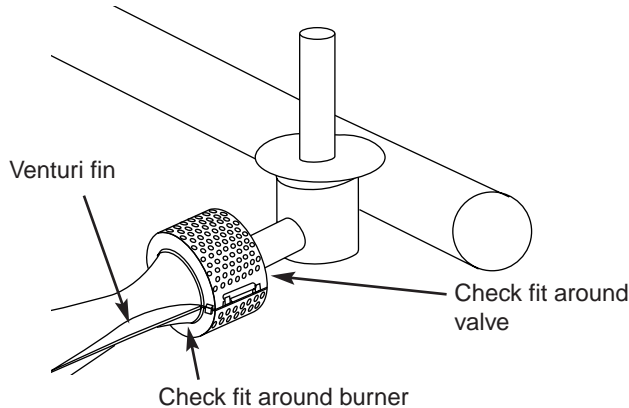

Figure 21
- i) Reinstall the Spider Stopper Guards. Slightly rotate the Spider Stopper Guards so that the seams are in line with the Venturi fins. There should be no gaps in the seams or in the fit around the burners and valves. Figure 21.